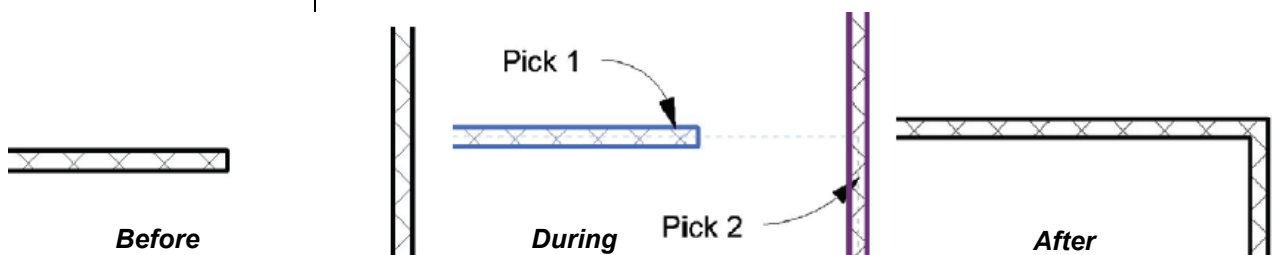

Figure 2–45
3. Select the second linear element on the side you want to keep, as shown in Figure 2–45.